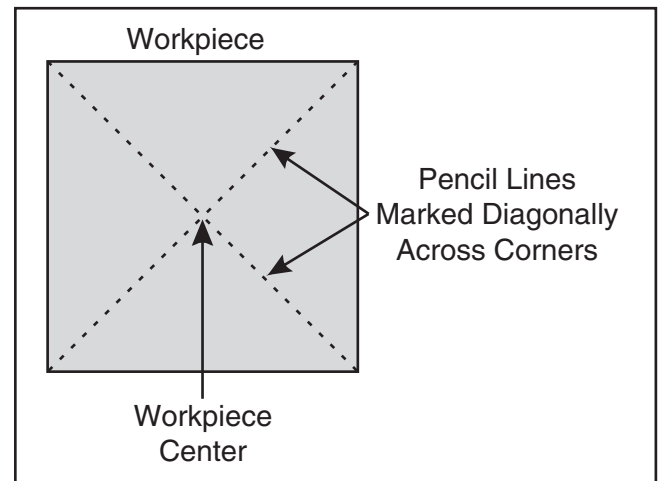

Figure 31. Workpiece marked diagonally from corner to corner to determine the center.
1. Find the center point of both ends of your workpiece by drawing diagonal lines from corner to corner across the end of the workpiece (**Figure 31**).